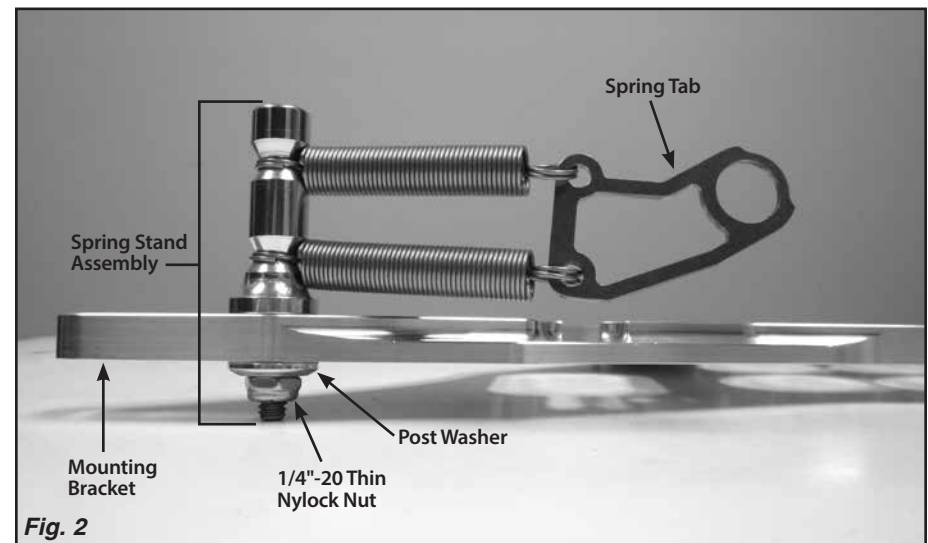

Fig. 2
**Step 1:** Remove the 1/4"-20 thin nylock nut and the post washer from the spring stand assembly. Install the spring stand with the springs and throttle tab onto the top side of the throttle cable mounting bracket, into the slot at the front left corner. Install the post washer (beveled edge out) and 1/4"-20 thin nylock nut on the bottom. **Fig. 2**